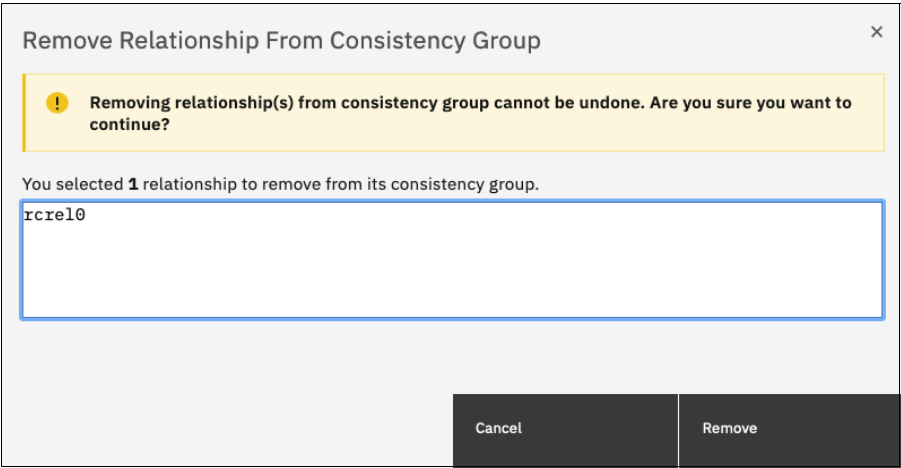

Figure 10-133 Confirm the removal of relationships from a consistency group
4. Confirm your selection and click **Remove**, as shown in Figure 10-133.